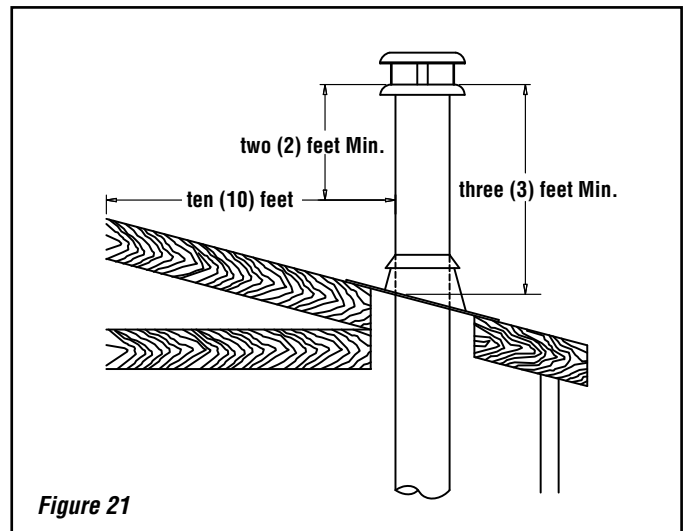

Figure 21
6. The chimney must extend at least three (3) feet (915 mm) above its point of contact with the roof and at least two (2) feet (610 mm) higher than any wall, roof or building within ten (10) feet (3m) of it (**Figure 21**).
7. If the chimney extends higher than five (5) feet (1,500 mm) above its point of contact with the roof, it must be secured using a roof brace.